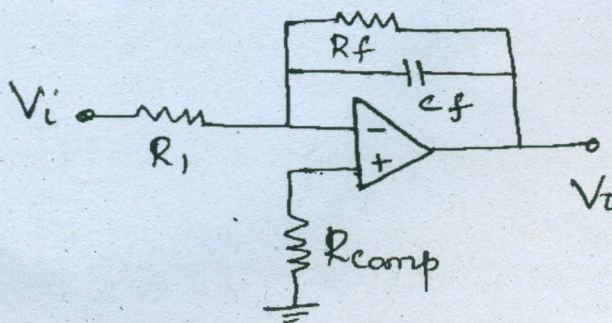

Figure 2
12. (a) (i) Consider the lossy integrator as shown in figure 2. For the component values $R_1 = 10 \text{ k}\Omega$, $R_f = 100 \text{ k}\Omega$, $C_f = 1 \text{ nF}$, Determine the lower frequency limit of integration and study the response for the inputs